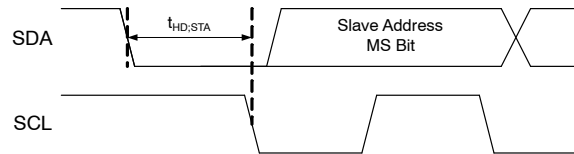

Figure 19. START Bit
Each bus transaction begins and ends with SDA and SCL HIGH. A transaction begins with a START condition, which is defined as SDA transitioning from 1 to 0 with SCL HIGH, as shown in Figure 19.
The protocols for High-Speed (HS), Low-Speed (LS), and Fast-Speed (FS) Modes are identical; except the bus speed for HS Mode is 3.4 MHz. HS Mode is entered when the bus master sends the HS master code 00001XXX after a START condition (Figure 19). The master code is sent in Fast or Fast-Plus Mode (less than 1 MHz clock); slaves do not ACK this transmission.
| S | START, see Figure 19 |